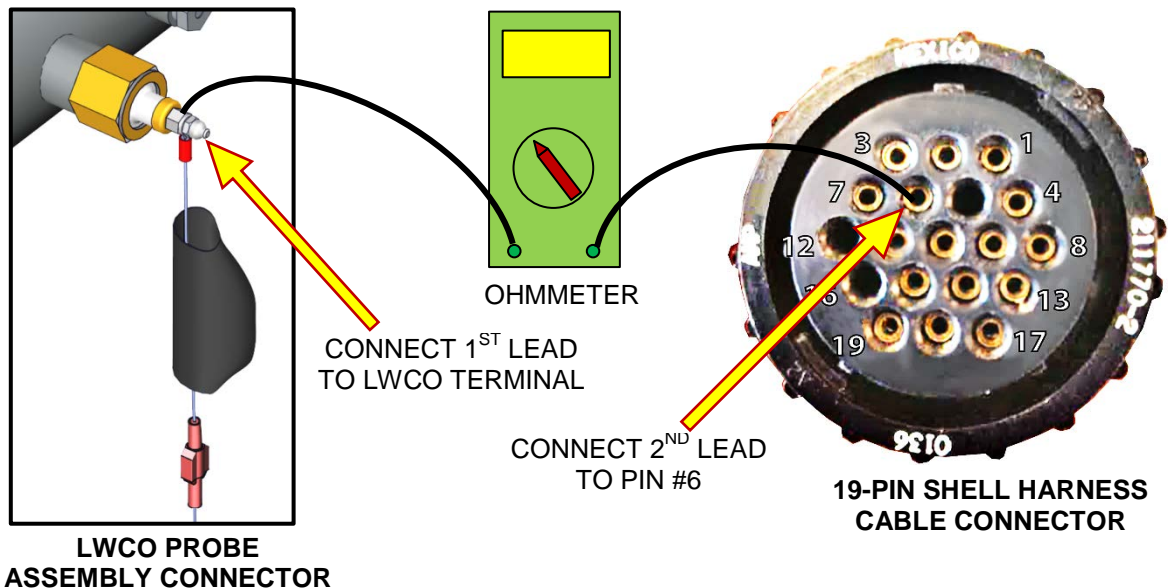

Figure 5-11: Connecting Ohmmeter between LWCO Probe & Shell Harness Cable
3. Using an ohmmeter, connect one ohmmeter probe to the LWCO capacitor terminal on the unit shell as shown on left in Figure 5-11.
4. Connect the second ohmmeter probe to Pin #6 of Shell Harness Connector (removed from the C-More controller) as shown on right in Figure 5-11.